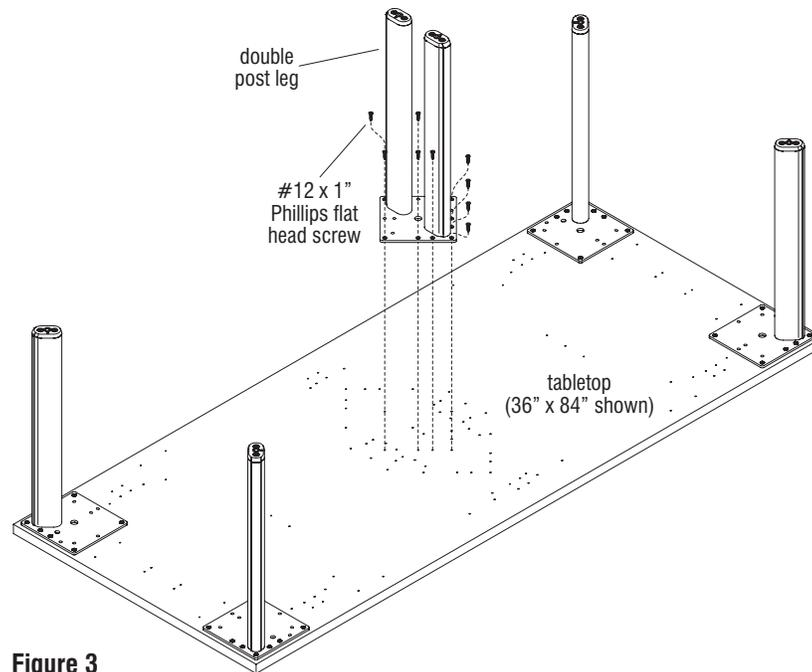

Figure 3
1. Position the double post leg over the center pre-drilled mounting holes in the underside of the tabletop as illustrated. Secure the double post leg to the top using eight #12 x 1" Phillips flat head screws through the post-leg mounting plate (Figure 3).